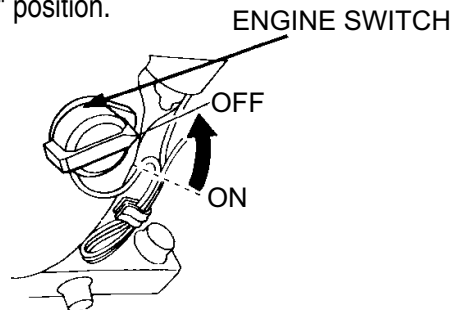

Figure 21. Engine ON/OFF Switch (OFF Position)
2. Place the engine ON/OFF switch (Figure 21) in the **"OFF"** position.